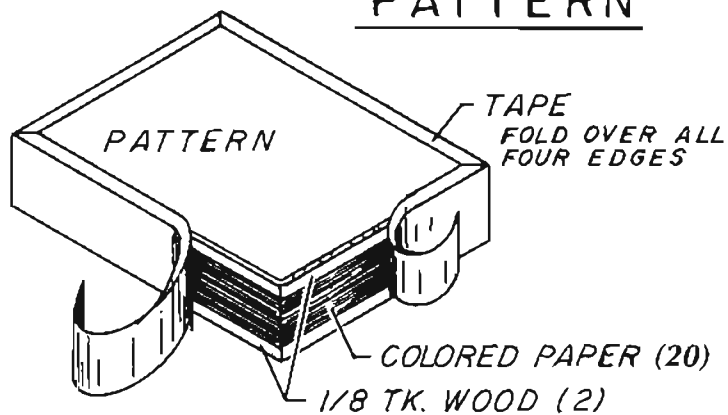

FIGURE 10
Step 2 Sandwich the 20 sheets of paper between the two $1/8"$ -thick pieces of plywood. Line up the edges. (See figure 10.)